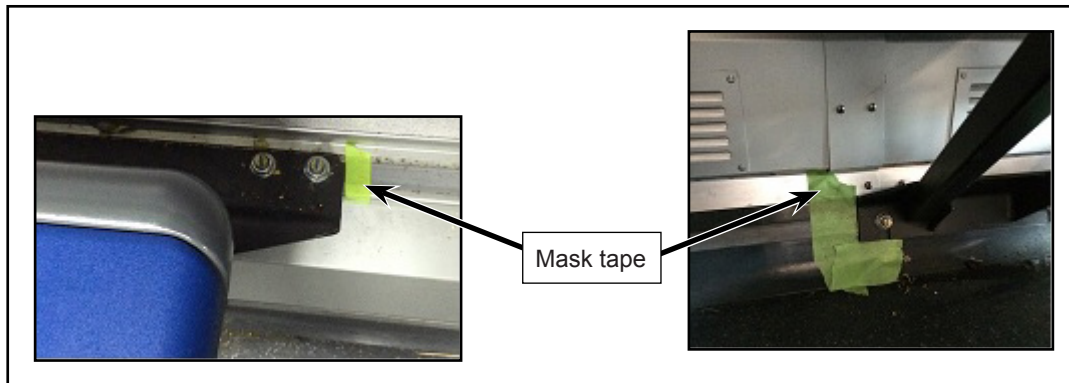

Figure 8 - Typical View of Applying Masking Tape to Brackets
- 2.1.1. Line up masking tape to top and bottom bracket (see Figure 8).